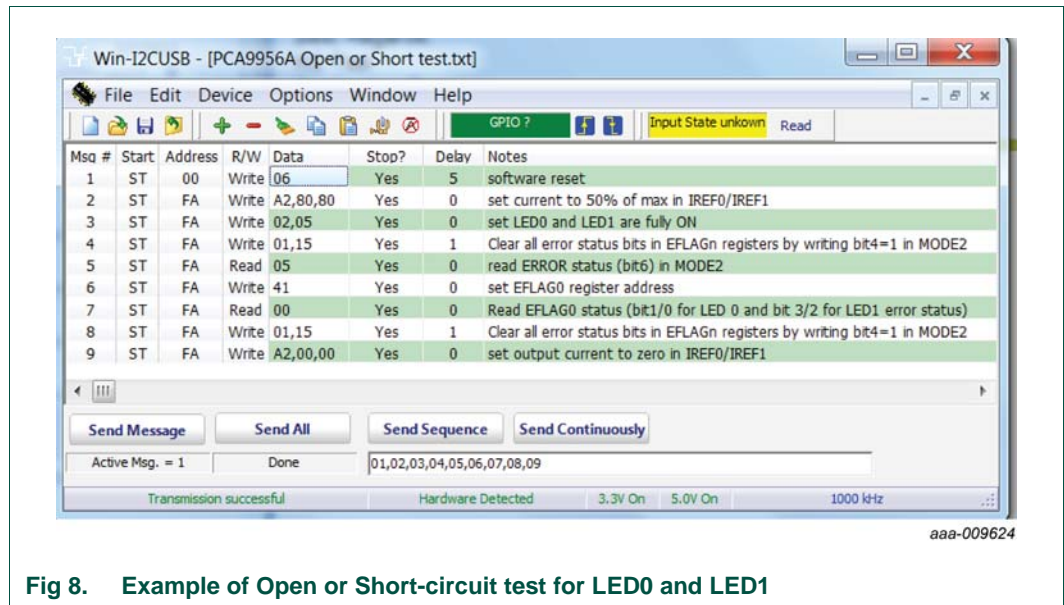

Fig 8. Example of Open or Short-circuit test for LED0 and LED1
2. After opening the 'PCA9956B Open or Short test' text file, the WIN-I2CUSB GUI in Expert mode screen will be displayed as shown in Figure 8.